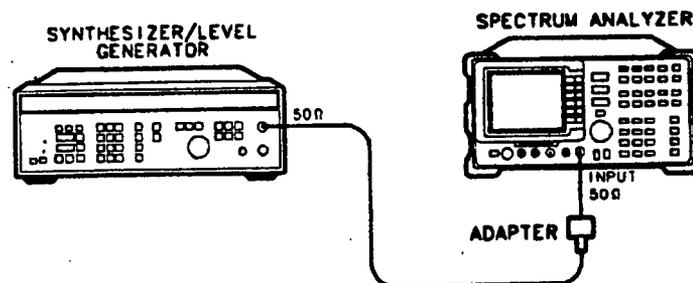

Figure 2-13. Cal Attenuator Error Correction Setup
3. Connect the 50 Ω output of the HP 3335A to the spectrum analyzer INPUT 50 Ω . See Figure 2-13.